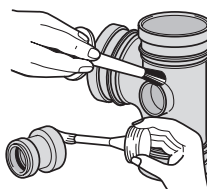

Fig.24b Applying solvent cement
**Step 5** – Apply **9100 Liquid Weld** (solvent cement) to all mating surfaces using a clean brush (Fig.24b)